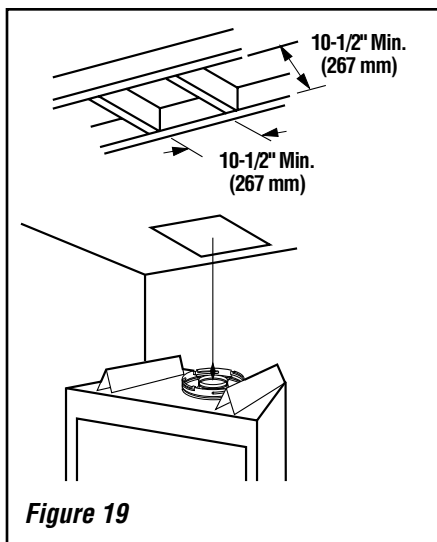

Figure 19
A. Frame ceiling opening - Use a plumb line from the ceiling above the appliance to locate center of the vertical run. Cut and/or frame an opening, 10-1/2" x 10-1/2" (267 mm x 267 mm) inside dimensions, about this center mark (**Figure 19**).